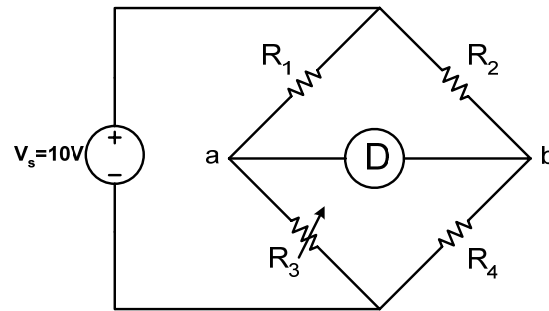

Figure 3: Balanced Bridge Circuit
1. Connect the circuit as shown in figure 3.